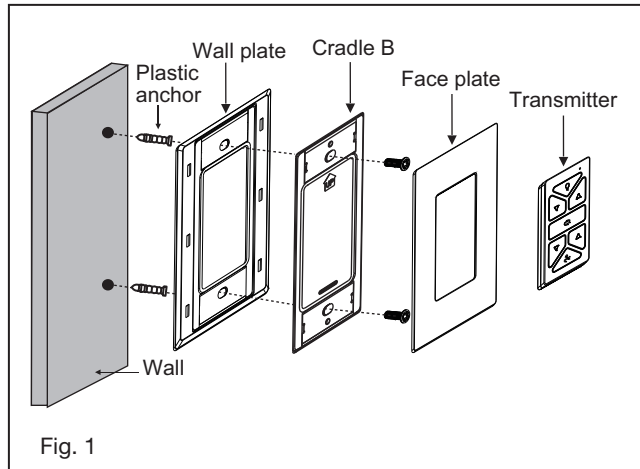

Fig. 1
Remove top of the motor housing by removing the six collar mounting screws with lock washers (every other one) from the collar on top of the fan motor assembly. (Fig. 1)
- 1 Remove ball from downrod by loosening set screw in the side of the ball. Slide ball down and remove ball pin; remove ball. (Fig. 1)
1. Insert the receiver into the ceiling mounting bracket with the flat side of the receiver facing the ceiling. (Fig. 1) For best performance, make sure the Black Antenna and WIFI Antenna, on the end of the receiver, remains extended and not tangled with any of the electrical wires.
- 1 Remove one of the three screws on the mounting hub located on the fan motor. Loosen the other 2 screws. (Do not remove) (Fig. 1)
- 1 Select a desired location. Use the wall plate to mark the location of the mounting holes. Plastic wall anchors or mounting screws are needed for this application. (Fig. 1)
Remove the panel from the transmitter and then install one 2032 battery (included). You need to use a coin to open or close the battery cover. To prevent damage to transmitter, remove the battery if not use for long periods of time (Fig. 1)